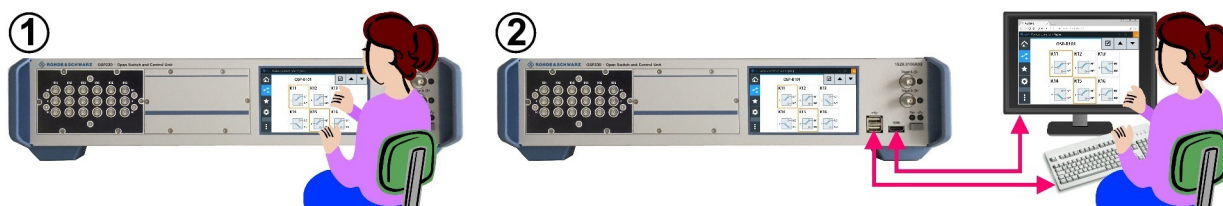
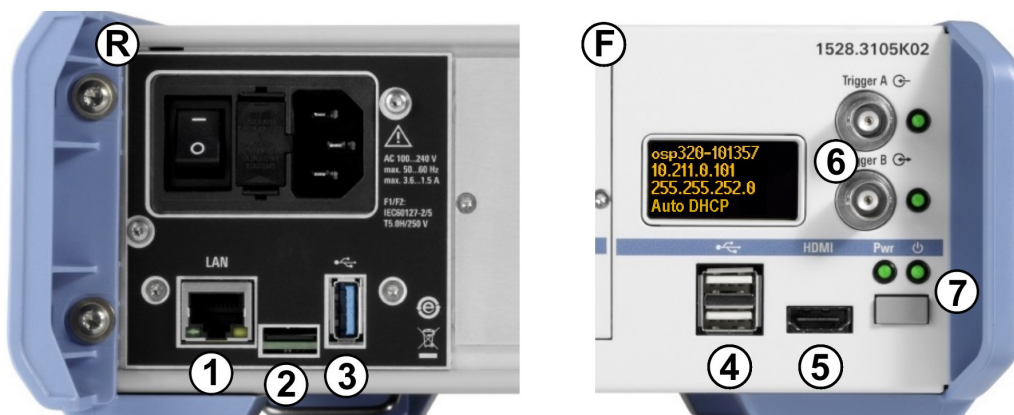

Figure 3-13: Operation by integrated touchscreen (1) or by external USB / HDMI devices (2)
Figure 3-16: Connectors and functional elements on the switch unit's rear and front panel
Instead of using the on-screen keyboard, you can enter data with a connected external keyboard (Figure 3-13) or via the user interface in a browser (Figure 3-14).
Alternatively, with any of the R&S OSP models, you can control your switch unit via an external mouse and keyboard, connected to the USB interfaces (see 4 in Figure 3-16). Optionally (especially without integrated touchscreen), you can connect an external monitor to the switch unit's HDMI interface (see 5).
For connecting external devices, see Figure 3-16.
- As on the right-hand side in Figure 3-13, connect an external monitor to the HDMI connector on the unit's front panel (labeled 5 in Figure 3-16). Also connect a mouse and keyboard to the USB connectors, labeled (4).
- Connect the switch unit to a local area network (LAN) by the RJ45 connector on the unit's rear panel. The connector is labeled (1) in Figure 3-16. Read the unit's IP address from the status display and proceed as described in Chapter 3.3.1.2, "Manual remote operation", on page 36, or Chapter 3.3.1.3, "Remote operation by SCPI commands", on page 36.